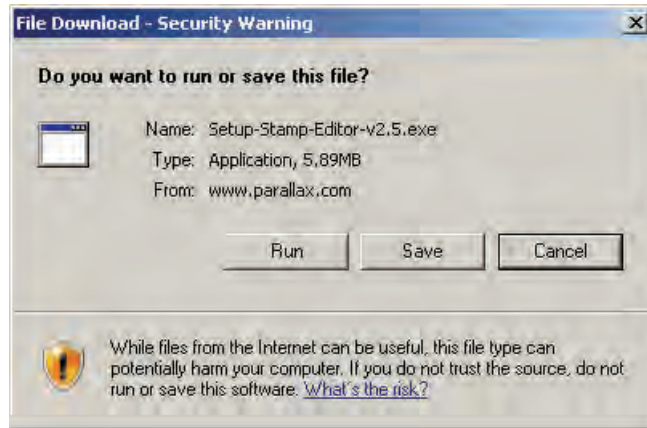

Figure 1-10
- ✓ A File Download window will open, asking you if you want to run or to save this file (Figure 1-10). Click on the Save button.